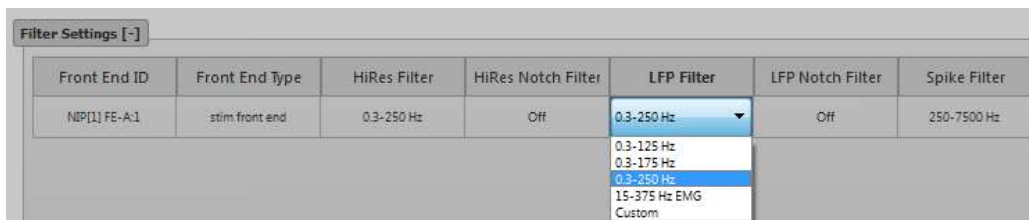

Figure 3-10 Trellis Instruments – Grapevine processor configuration
- **Filter Settings.** This panel provides the FE digital signal processing filter settings for all appropriate FEs. Each FE is noted by its Front End ID. The specific cutoff frequencies for each filter type can be changed by double clicking on the values, as shown in Figure 3-10. Filter characteristics can be set for all FEs by clicking on the filter type, e.g., ‘HiRes Filter’. These digital filters are IIR filters with 4th order Butterworth characteristics by default and are applied to the data streams at the processor level. Notch filters can be applied to the Hi-Res and LFP data streams to remove common noise signals, such as 60-Hz AC line noise (50-Hz in the EU and other countries). The Notch Filters have 2nd order Butterworth characteristics. Custom filter settings can be created by contacting Ripple Support.